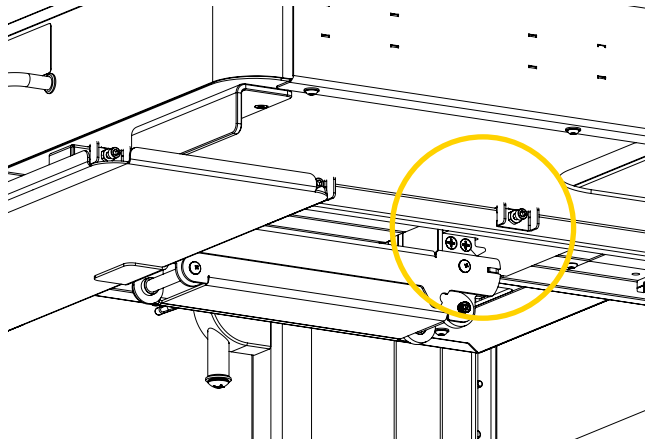

Figure 15: Tightening the adjustment screws (2 of 3)
- D. Push the tray horizontally to insert it and align the bearing housing in front of the third adjustment screw (Figure 15), then tighten the screw until you begin to feel resistance using a $\frac{5}{32}$ in. hex key and torque the nut $\frac{1}{2}$ to 1 full turn using a $\frac{3}{8}$ in. key.